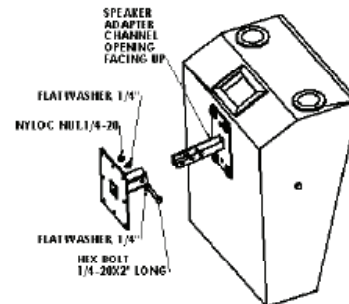

Figure 5
Step 5: Attach the speaker adapter w/ speaker to the wall mount assembly hole using 1/4-20 hex head screw, nylon nut and flat washer. Tighten permanently. (Figure 5)